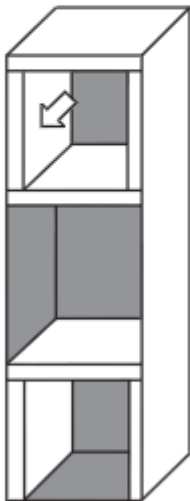

fig. 5
- Install the TUF COTE® TBK Faced Foam to the inside of the housing and over the vibration control tape (fig. 5).